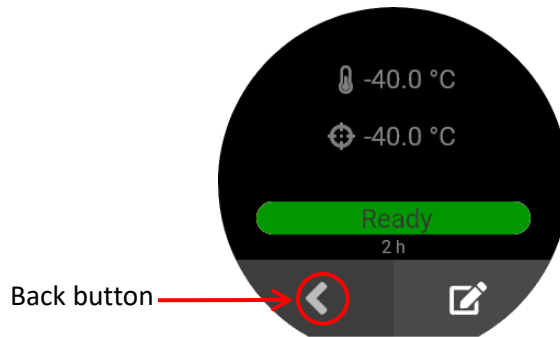

Figure 17: How to Exit out of Calibration
11. Press the back button on the TESC Base Unit to return to the home screen. See Figure 17.